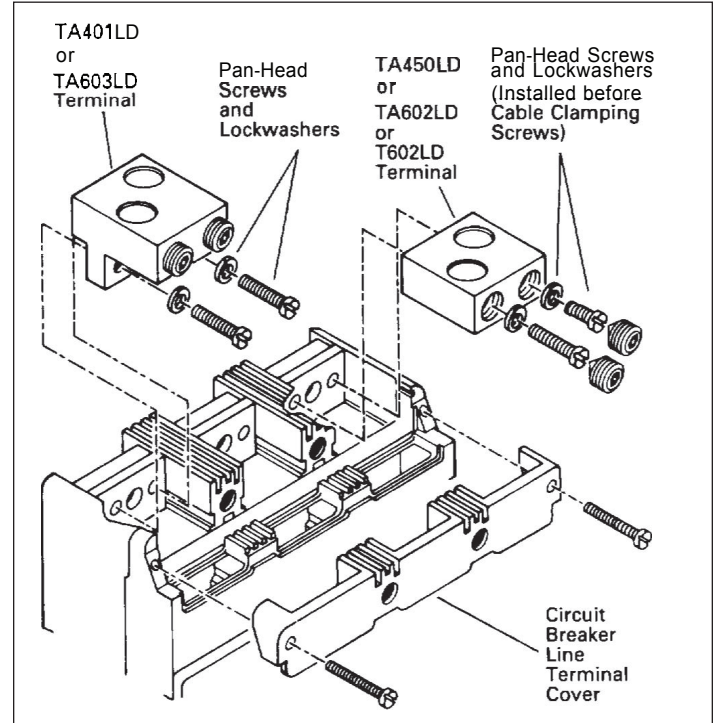

Figure 2. Terminal Installation
Step 5. If not already installed, mount wire connecting terminals as shown in Figure 2. Secure the terminals to the circuit breaker using two pan-head slotted screws and lock washers. Torque to 6 to 8 lb-ft (8.14 to 10.85 N-m). With the circuit breaker mounted and before the conductors are installed and conductor clamping screws inserted, the terminal mounting screws may be checked for correct torque.